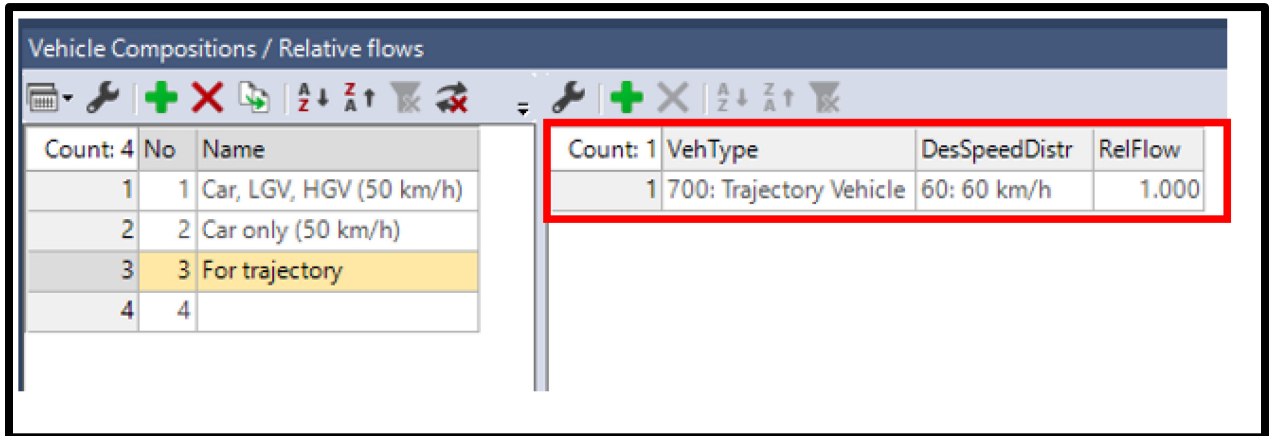

Figure 26: Trajectory vehicle generation in VISSIM
- x) To generate vehicle trajectories, users need to define a specific vehicle type in VISSIM and VCID as shown in Figures 26 and 27. “Trajectory Vehicle” in VISSIM is VehType 700, which aligns with the “700” code in the VCID configuration file. PASS can potentially track all vehicles in VISSIM, but the computational load can be extensive.